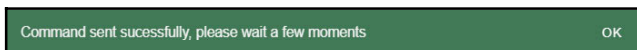

Figure 1-26 Command Sent Successfully
2. In the dialog box, select the status desired. See Figure 1-26.